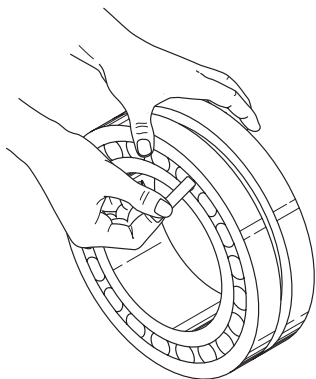

Fig. 20-7 Unmounted clearance.
3. Measure the unmounted internal clearance in the bearing by inserting progressively larger feeler gauge blades the full length of the roller between the most vertical unloaded roller and the outer ring sphere. Don't roll the feeler through the clearance; slide it through. Record the measurement of the largest size feeler that will slide through. This is the unmounted internal clearance (Fig. 20-7).